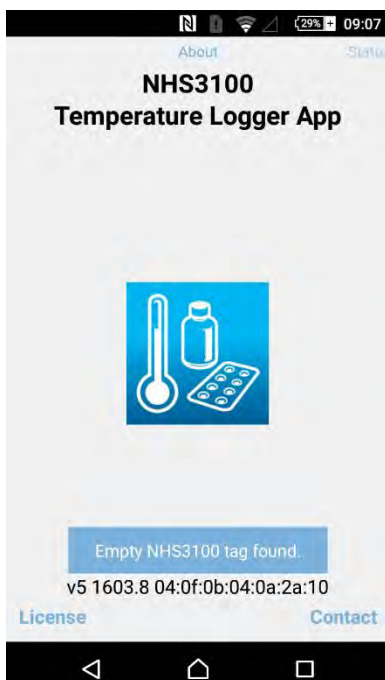

Figure 3: The status of the current connection and communication is displayed through numerous notifications
2. Hold the NHS3100 demonstrator close to where the NFC antenna of the phone is located. A small notification appears near the bottom of the screen telling you that the phone has found an NFC tag. When communication with an NHS3100 IC is established, a second notification appears informing you that an NHS3100 tag has been found (Figure 3).